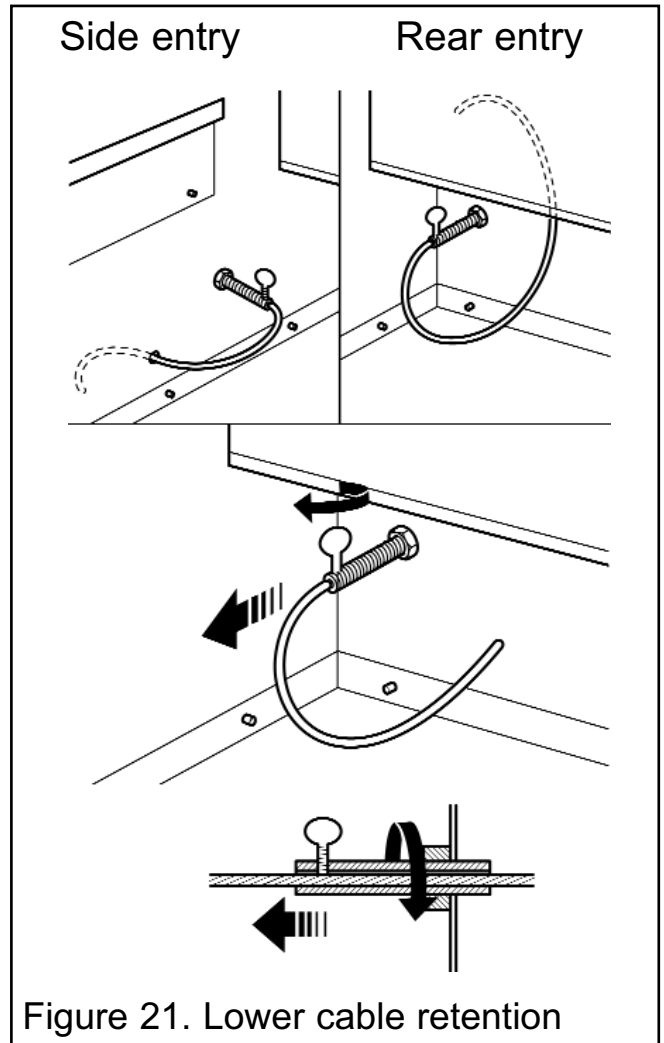

Figure 21. Lower cable retention
11. Pull each cable taut. Push the cable retainers hard up against the back panel. The end of the cable adjuster will pass into the hole. Tighten the screws in the retainers so that they clamp the cables in position. Apply tension to the cables by turning the hexagonal adjusters by hand (See figure 21).
14. Feed the free length of the cables into the gap between the inner and outer back panels so that they are available to allow easy removal and refitting of the appliance during subsequent service calls. **Do not cut off the free lengths of cable.** On precast flue installations feed the cables into the small holes at the base of the side panels (See figure 21)